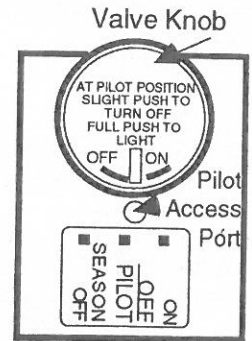

Figure 10
1. Slightly push knob and turn to "SEASON OFF". Figure 10
3. Slightly push knob and turn to "PILOT/OFF". Figure 10